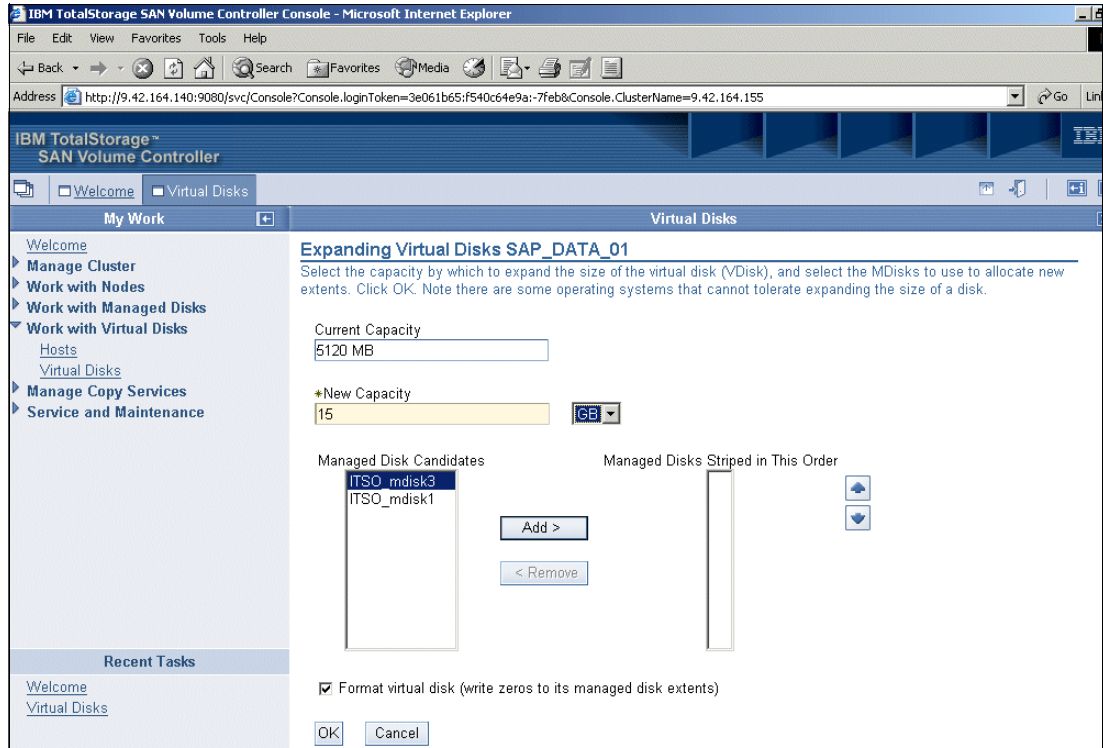

Figure 9-70 Expanding a vDisk
2. The Expanding Virtual Disks *vDiskname* panel (where *vDiskname* is the vDisk you selected in the previous step) opens. See Figure 9-70. Follow these steps: